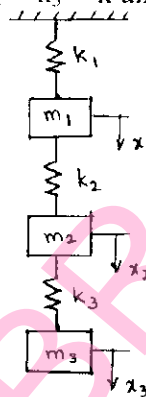

Fig.Q.7(a)
- 7 a. Find the first natural frequency and draw the mode shape for the system shown in Fig.Q.7(a) by matrix iteration method. Take $k_1 = k_2 = k_3 = k$ and $m_1 = m_2 = m_3 = m$. (10 Marks)